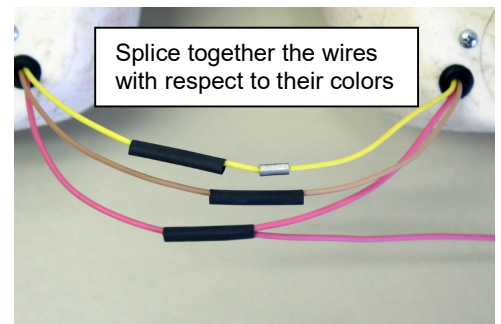

Figure 3
- 4.6.2. Between the Inner and Middle housings on each side, bring each of the four matching color wire together for splicing, including the additional wires measured off from Step 4.6.1, with moderate slack. If sequential lighting patterns are desired, the one Pink wire splice will have four wires, one from each housing from that side of the trunk lid, one from the other side of the trunk lid and one that will route to the outer light housing. Cut off any excess wire length and strip off 3/16" insulation off each wire. Slide a piece of heat shrink tubing over all wires on one side of the splice. Using the butt splices provided, insert the one color wire into each side and crimp the wires together. Then slide the heat shrink tubing over splice and shrink into place with a heat gun or other suitable heat source. (See Figure 3)